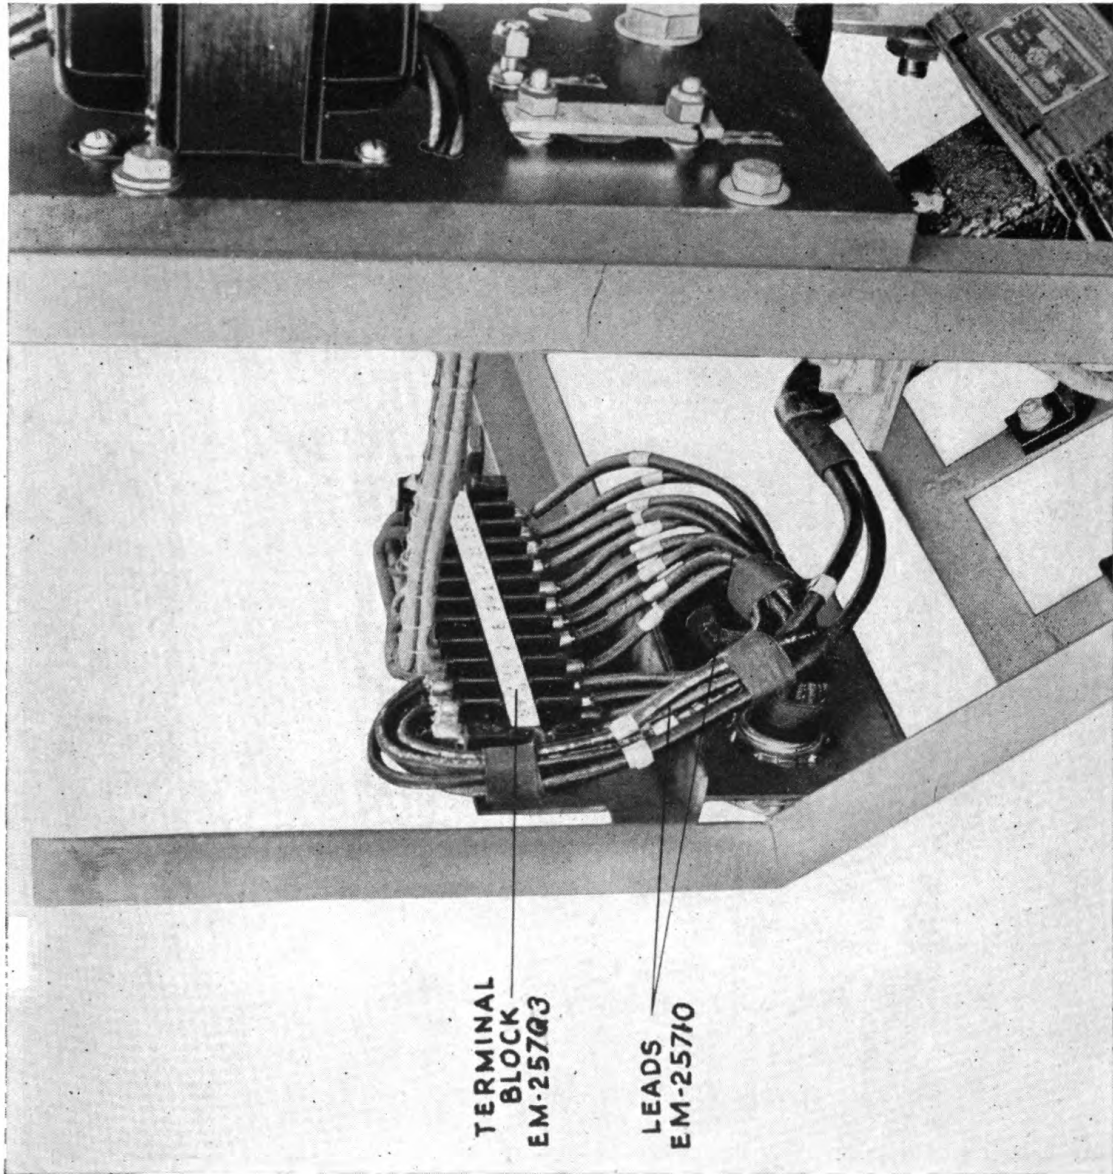

FIG. 18—Terminal Box Terminal Block
- Figure 18 Terminal box terminal block.